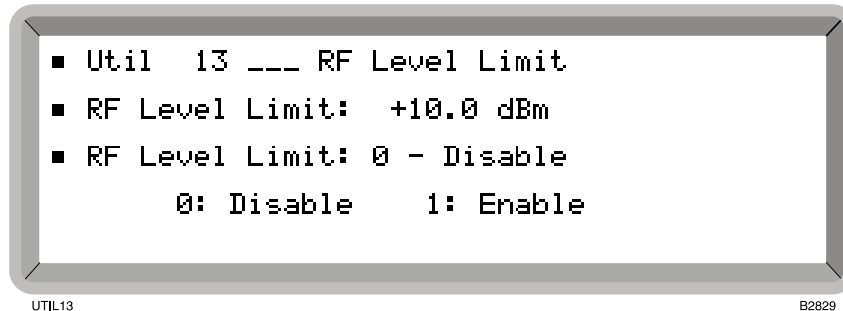

Fig. 4-32 RF level limit menu
- (1) Select the *Util 13: RF Level Limit* menu. This shows the currently selected RF level limit (see Fig. 4-32).